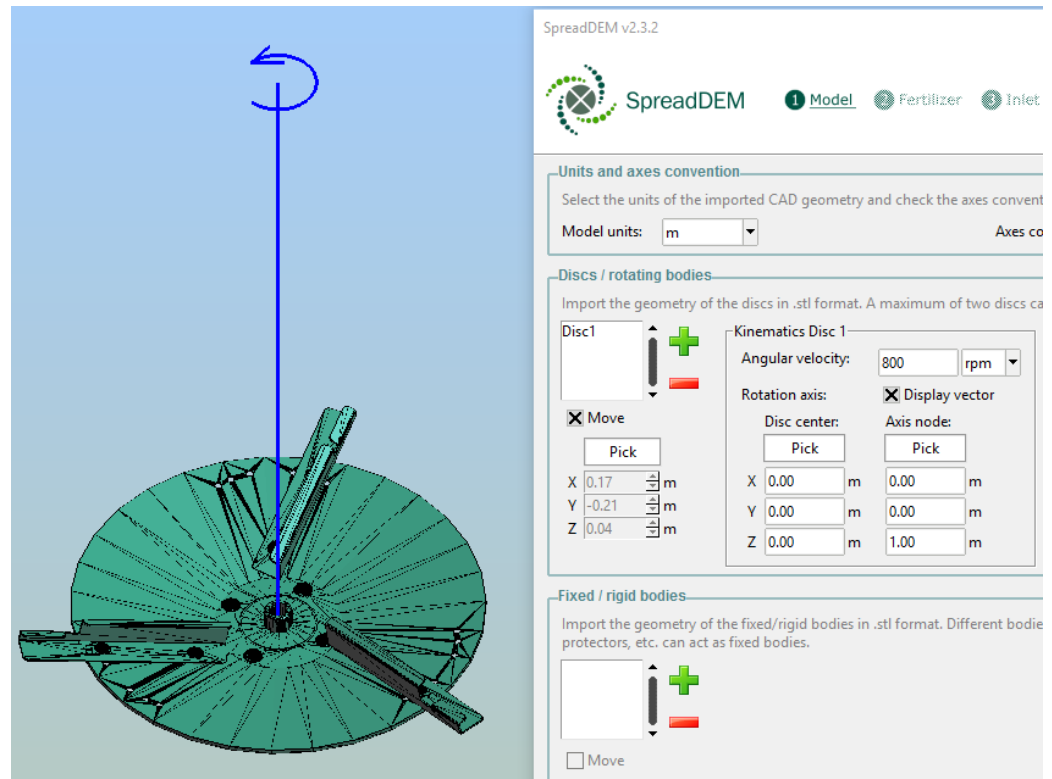

Figure 11. Rotation axis vector.
- **Display vector:** you can use this checkbox to make sure the rotation axis has been defined correctly according to the direction of travel and the configuration of the blades (Figure 11).